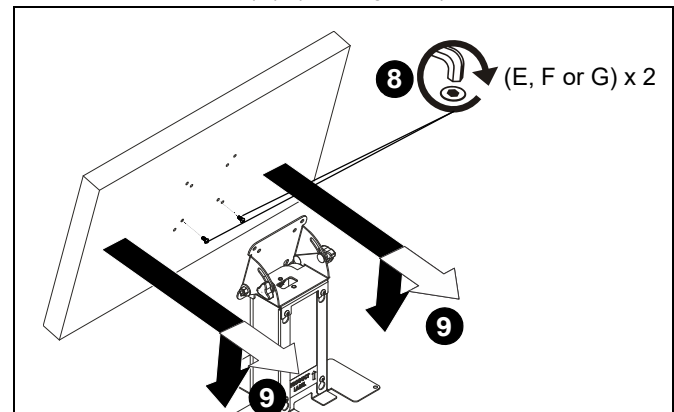

Figure 4
8. Use two selected screws (E, F or G) into lower two mounting holes on tablet. (See Figure 4)
9. Insert two installed screws (E, F or G) into lower drop holes on VESA adapter (D). (See Figure 4)